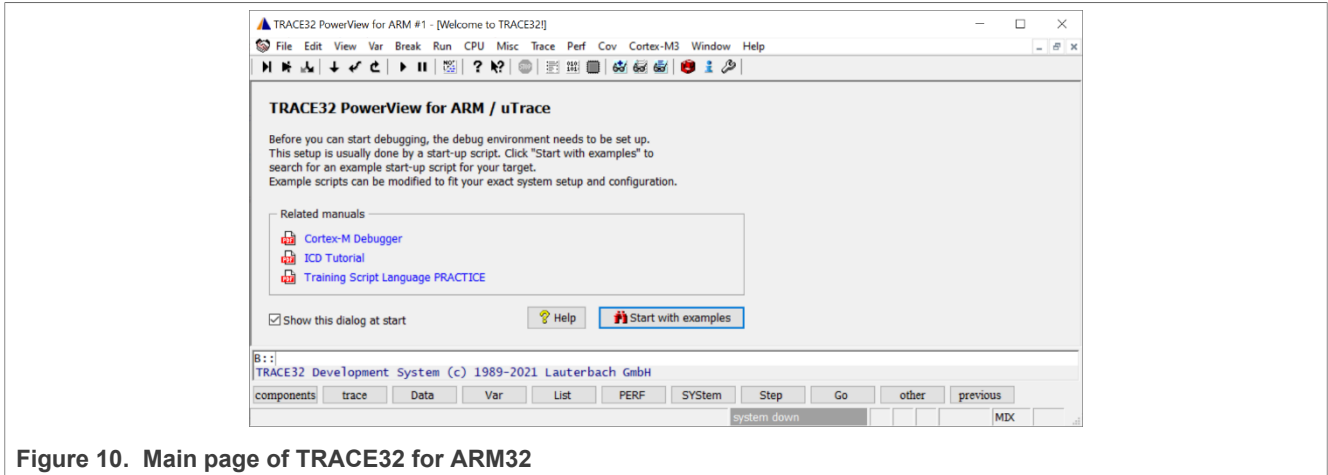

Figure 10. Main page of TRACE32 for ARM32
2. The main page of TRACE32 for ARM32 is shown in Figure 10. If the status bar at the bottom of the main page shows power down instead of system down, check the power supply of the debugger and the connection with the JTAG interface of the FRDM-MCXA153 board.